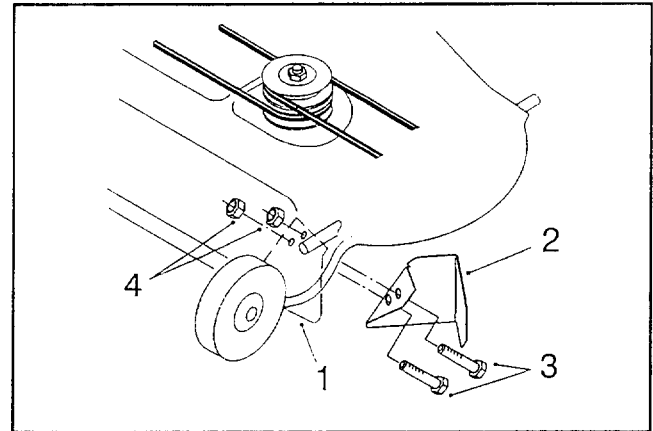

Figure 2
2. Install both the grass plate (removed in step 1) and the new grass baffle on the inside of the mower using two $\frac{3}{8}$ " x 1" hex-head bolts and $\frac{3}{8}$ " nylon lock nuts (Fig. 2). Be sure the grass baffle is tight against the underside of the mower. Then rotate the blade to assure it does not hit the baffle. Adjust the baffle if the blade hits it.